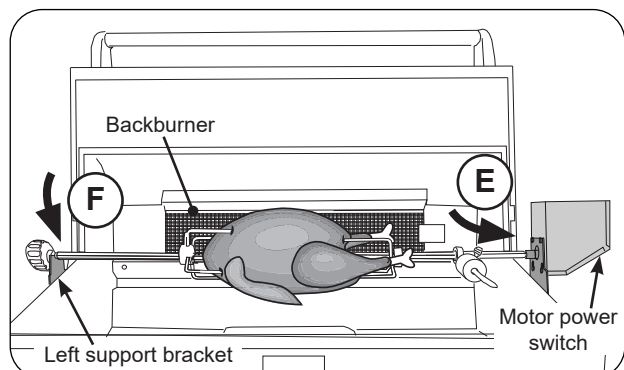

Fig. 37-4 Attach Rotisserie rod to motor
10. Insert the pointed-end of the rod into the motor drive socket (see Fig. 37-4, E). Then rest rod groove (next to the knob) into the left support bracket (see Fig. 37-4, F).